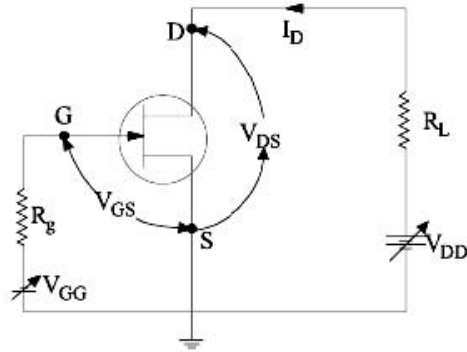

Fig. 4
1. Connect the circuit as shown in fig 4.